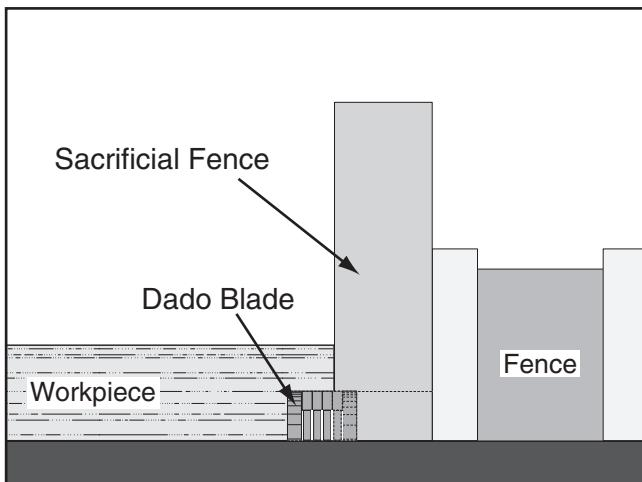

Figure 68. Rabbet cutting.
- 3. Adjust fence and align workpiece to perform cutting operation, as shown in **Figure 68**.**